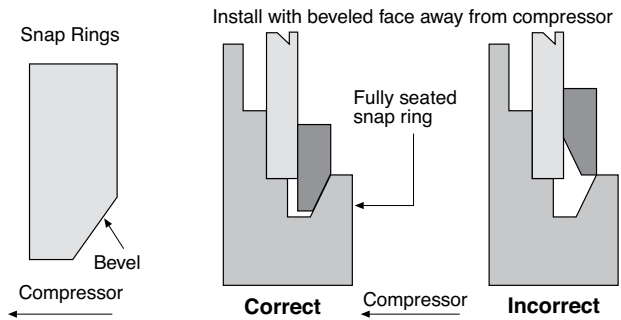

Figure 3
*For a 6C17 Compressor, Install the field coil assembly (2) with the retaining ring (3) provided with the new Warner clutch. Discard the old retaining ring.
With a snap ring pliers, spread the field coil snap ring (3) and insert it into the groove on the compressor nose. (See Figure 2) To assure assembly retention, ring bevel must face away from the compressor. (See Figures 3 and 4)
- A. Install the rotor/pulley assembly (4) onto the compressor (1). If the rotor/pulley does not slide on easily check the compressor nose for nicks or burrs and remove. If the rotor/ pulley still does not slide on easily, rock the rotor/pulley back and forth by hand until it slides completely onto the compressor (1).
- B. Make sure there is no interference between the field coil (2) or lead wires and the rotating rotor/pulley (4).
- C. Install the rotor/pulley snap ring (5). With a snap ring pliers, spread the snap ring and insert it into the groove on the compressor nose. (See Figure 2) To assure assembly retention, the snap ring bevel must face away from the compressor. (See Figures 3 and 4)